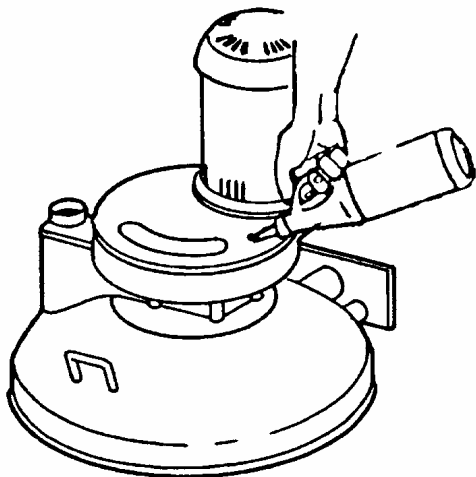

FIG. 19
3. If oil needs to be added, use quality 80-90 weight gear oil (Figure 19). Helpful hint: When checking the oil level in the gearbox, use a toothpick as a dipstick. The oil level should measure $\frac{3}{8}$ " deep.